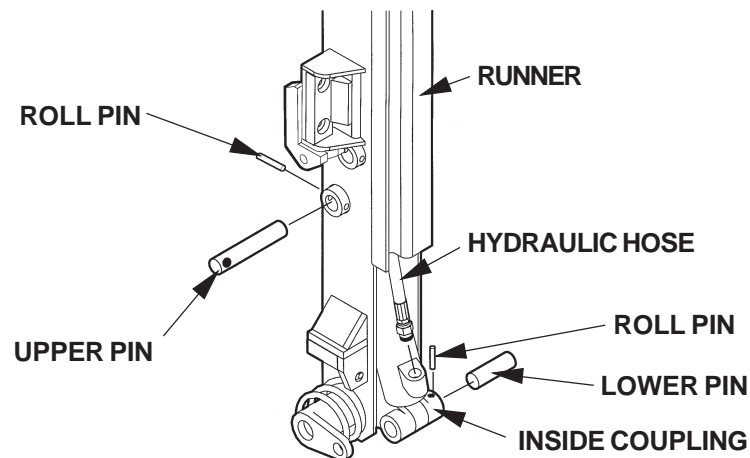

FIG. 4
2. Disconnect the Hydraulic Hose from lower end of Cylinder (**FIG. 4**). Plug hose to prevent spills.
3. Remove the Lower Roll Pin from Inside Coupling (**FIG. 4**) and then remove Lower Pin.
4. Remove the Upper Roll Pin (**FIG. 4**) from the Runner and then remove the Upper Pin.
5. Remove Cylinder from Runner (**FIG. 4**).
6. Place replacement Cylinder in the correct position as shown in **FIG. 4**.
7. Install Upper Pin (**FIG. 4**) and Roll Pin in upper end of Cylinder and Runner.
8. Install Lower Pin (**FIG. 4**) and Roll Pin in lower end of Cylinder and Inside Coupling.
9. Re-connect Hydraulic Hose to Cylinder (**Fig. 4**).